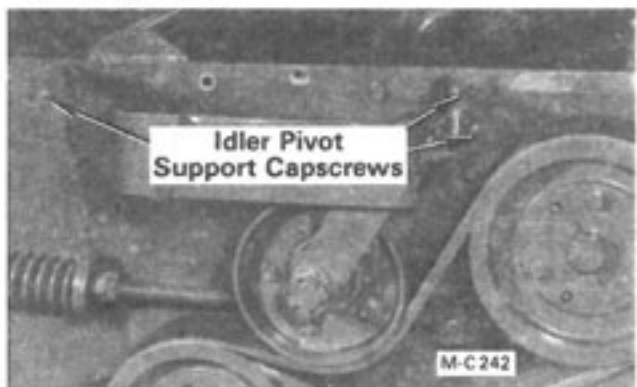
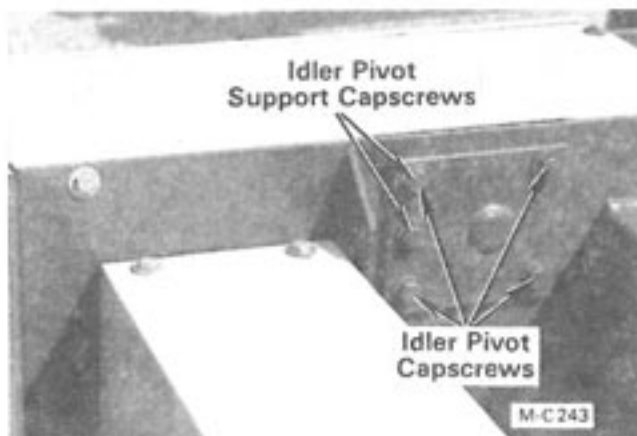

Figure 33
Figure 34
5. Loosen the idler pivot support capscrews, see Figure 33, and the idler pivot capscrews, see Figure 34.